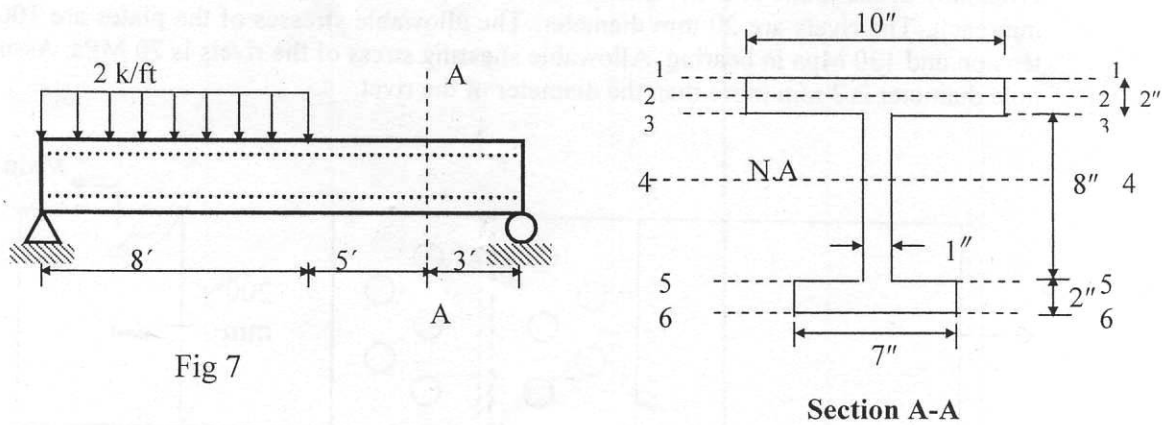

Fig 7
7. A steel beam is loaded as shown in Fig.7. Calculate shearing stress at levels indicated at section A-A. Also draw the shear stress distribution diagram. (10)